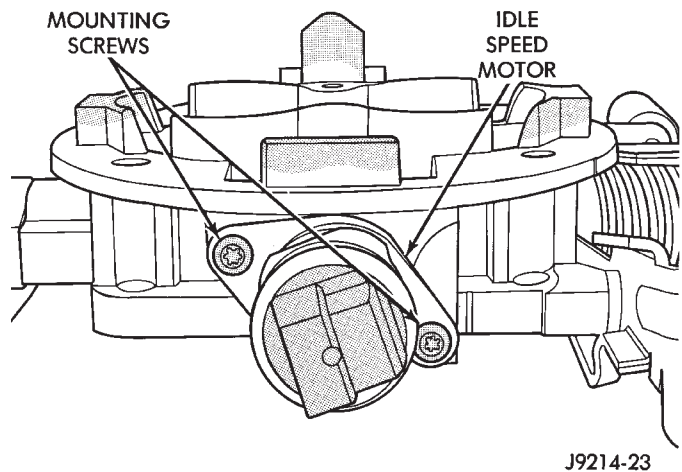

Fig. 71 Mounting Bolts (Screws)—IAC Motor—5.2L/5.9L Engines—Typical
- (1) Remove air duct at throttle body.
- (2) Disconnect electrical connector from IAC motor.
- (3) Remove two mounting bolts (screws) (Fig. 71).